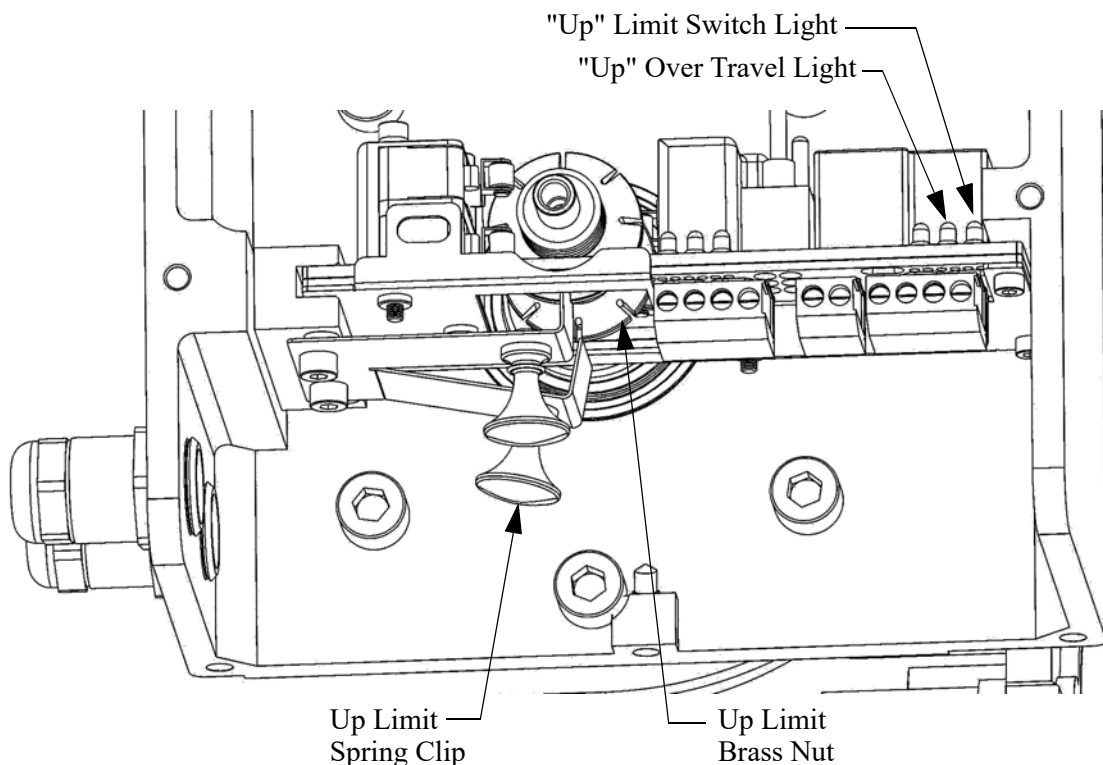

Figure 22. Up Limit Diagram
3. Pull the Spring Clip from the Up Limit Nut. Rotate the Brass Nut until the Up Limit Switch Light comes on, and the Up Limit Switch is energized. (Should hear a click) (See Figure 22).